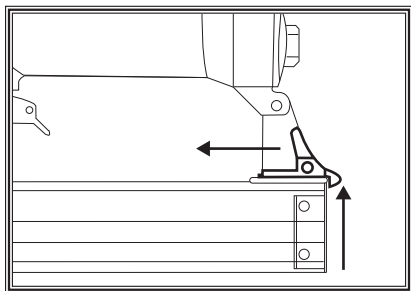

Figure 2. Releasing magazine latch.
2. Depress the magazine latch, as shown in Figure 2.